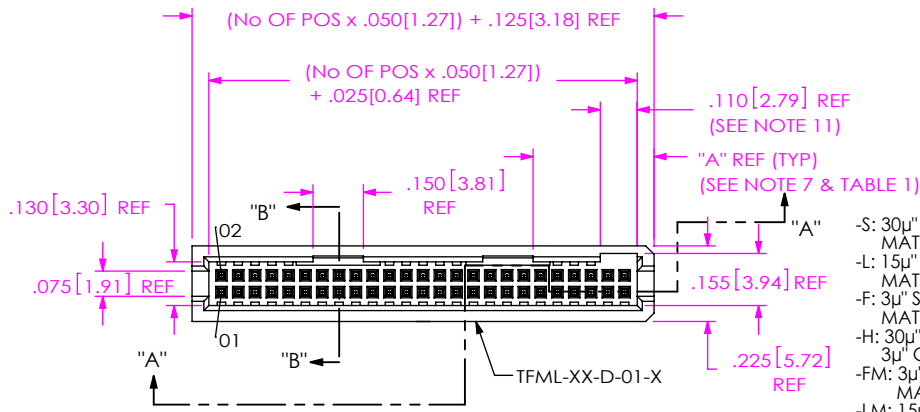

FIG 1
-01: THROUGH HOLE (SEE FIG 1)
(SAME AS FIG 1, UNLESS OTHERWISE STATED)